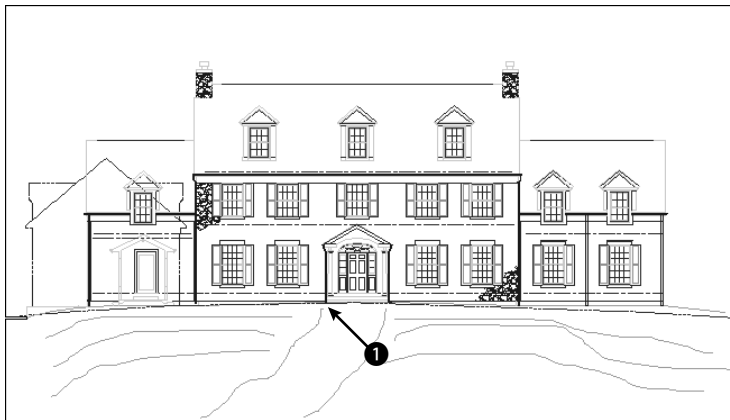

Figure 16-37: A sketched path and contours.
2. Save the file as `ab16-08.dwg` in your AutoCAD Bible folder. It shows the front elevation of a house. You'll add the sketched path and contours, as shown in Figure 16-37.
5. At the Sketch . Pen eXit Quit Record Erase Connect . prompt, move the cursor to ❶ in Figure 16-37. Click the pick button to put the pen down and draw the first line of the path. Click the pick button to put the pen up.
6. Use the same technique to draw the other lines in Figure 16-37. If you make a mistake, type `q` ↵ to quit and then start again.